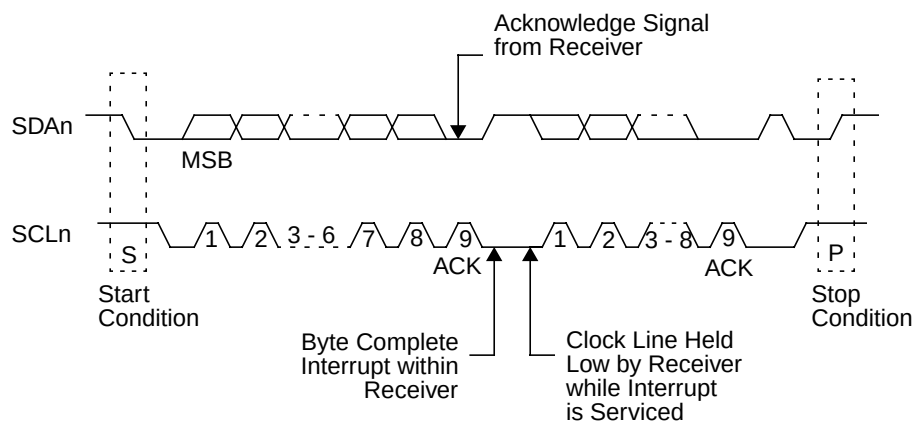

Figure 69. ACCESS.bus Data Transaction
- Acknowledge signal is sent by the receiving device (Figure 69)